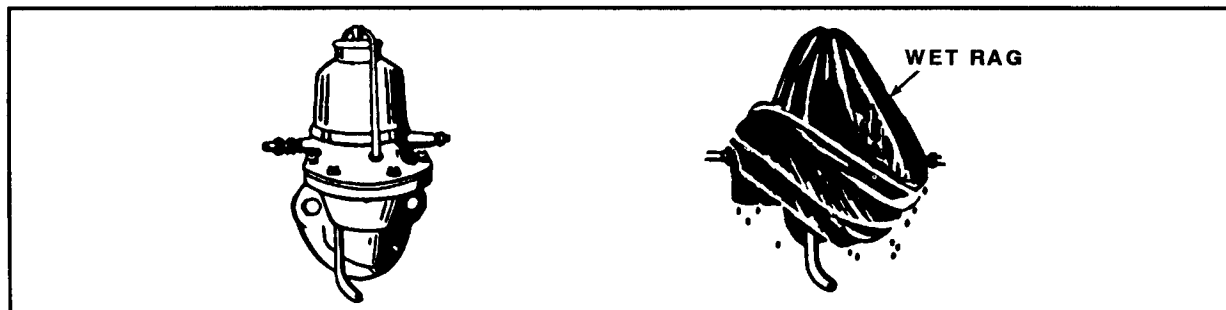

FIGURE 22-18. Fuel Pump Vapor Lock Correction.
**Fuel Pump Vapor Lock** High temperatures vaporizing gasoline in the fuel line causes this failure. The fuel pump will not pump vapor. Soak a cloth in water and place it over the fuel pump (Figure 22-18) to cool the fuel pump and condensate the vapor. The evaporation of moisture from the cloth has a refrigerating action that is most effective in hot, dry climates.